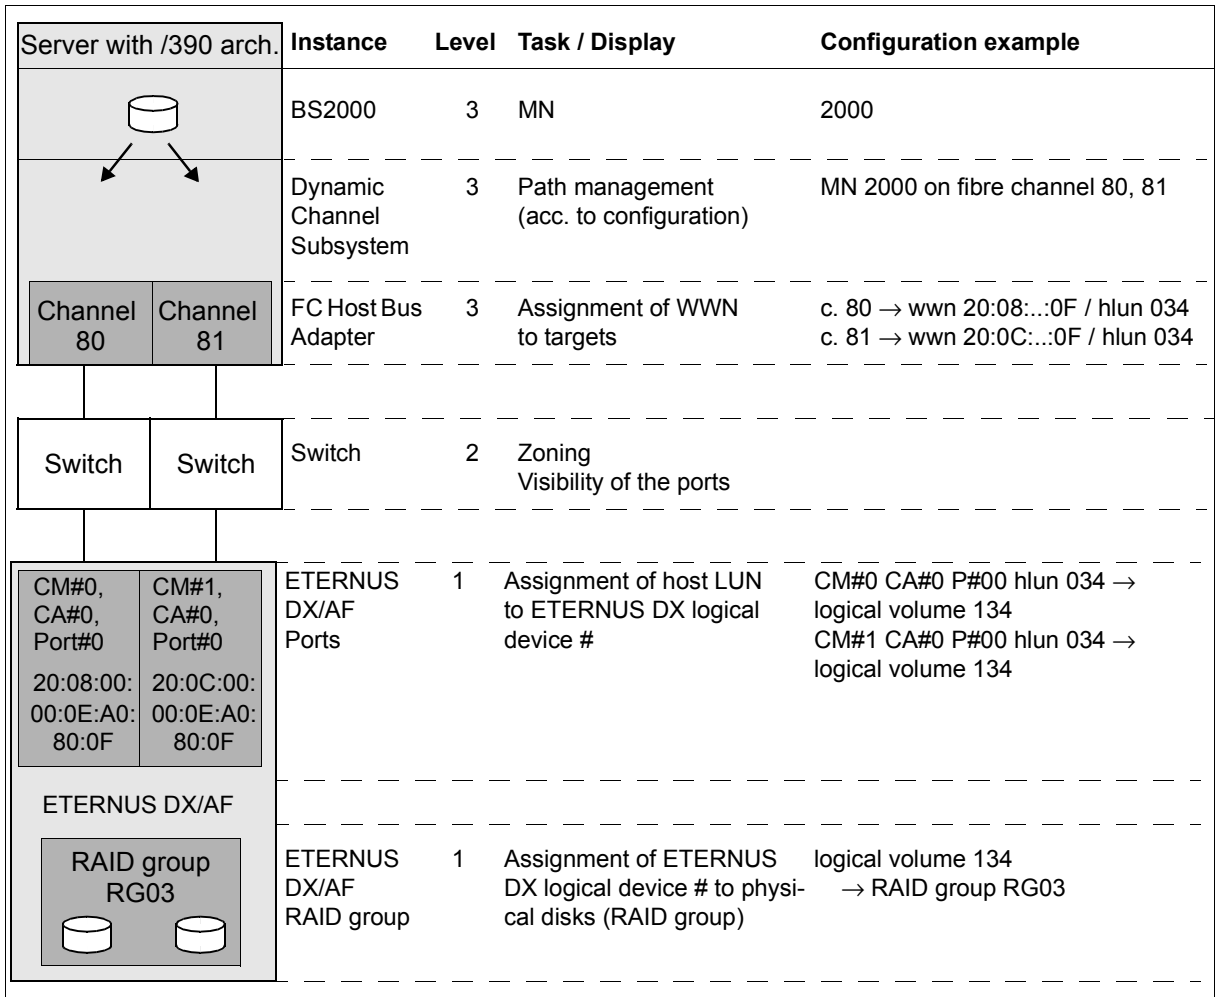

Figure 4: Configuration of the units on /390 servers for ETERNUS DX/AF
BS2000 volumes connected to a /390 server via a channel must be configured on storage system (1), switch (2) and BS2000 (3) levels (the level numbers as used in figure 4 on page 34 are in parentheses). The figure shows the various levels, taking ETERNUS CONFIG as an example. The same applies for Symmetrix/ VMAX3. The WWN of the Fibre Channel port (WWPN) of the storage system must be set for the channel at generation.